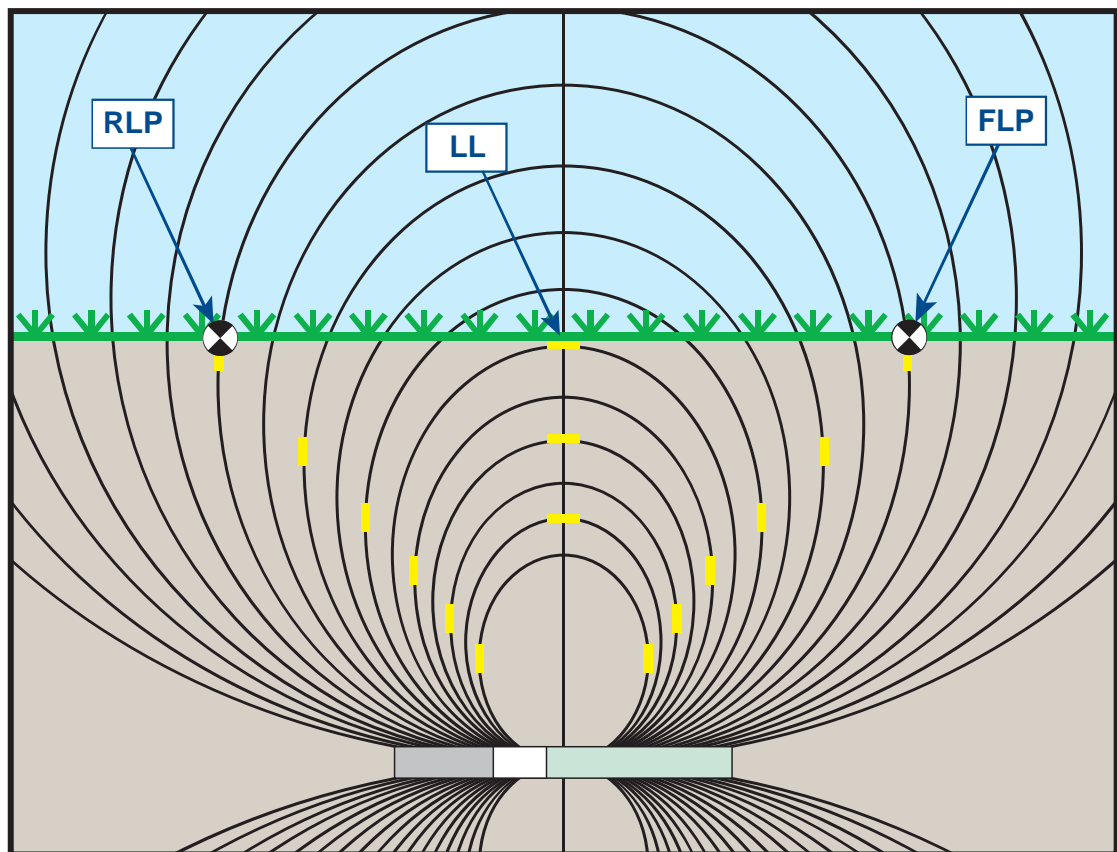

Figure B1. Flux Field and Geometry of FLP, RLP, and LL (Side View)
The signal field emitted by the transmitter, as shown in Figure B1, consists of a set of elliptical signals, or “flux lines”. The flux lines indicate the position of the transmitter. When the transmitter is level with respect to the ground, the locate line (LL) is directly over the transmitter; the depth displayed on the receiver is the actual depth, and the locate points (FLP and RLP) are at equal distances from the transmitter. The location of the LL is found at the intersection of the ground and the horizontal component of the flux field; the FLP and RLP are found where the vertical components of the flux field intersect with the ground. Some of the horizontal and vertical components are identified in Figure B1 by short yellow lines.